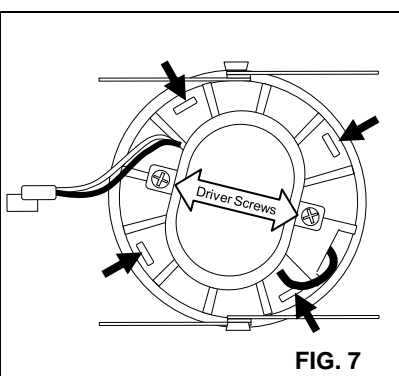

FIG. 7
- Remove the DRIVER SCREWS and separate the old LED DRIVER from the CAST HEAT SINK. (FIG. 7)
- Mount the new LED DRIVER onto the CAST HEAT SINK using the previously removed DRIVER SCREWS. (FIG. 7)